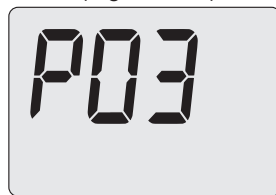

Figure 5.48
- Scroll through the various parameters using 12 or 13 until the LCD display shows the code **P03**, indicating entry into “parameter P03” (Figure 5.48).
- Press 12 or 13 (Figure 5.46) to confirm the value entered and return to the list of parameters (Figure 5.48).